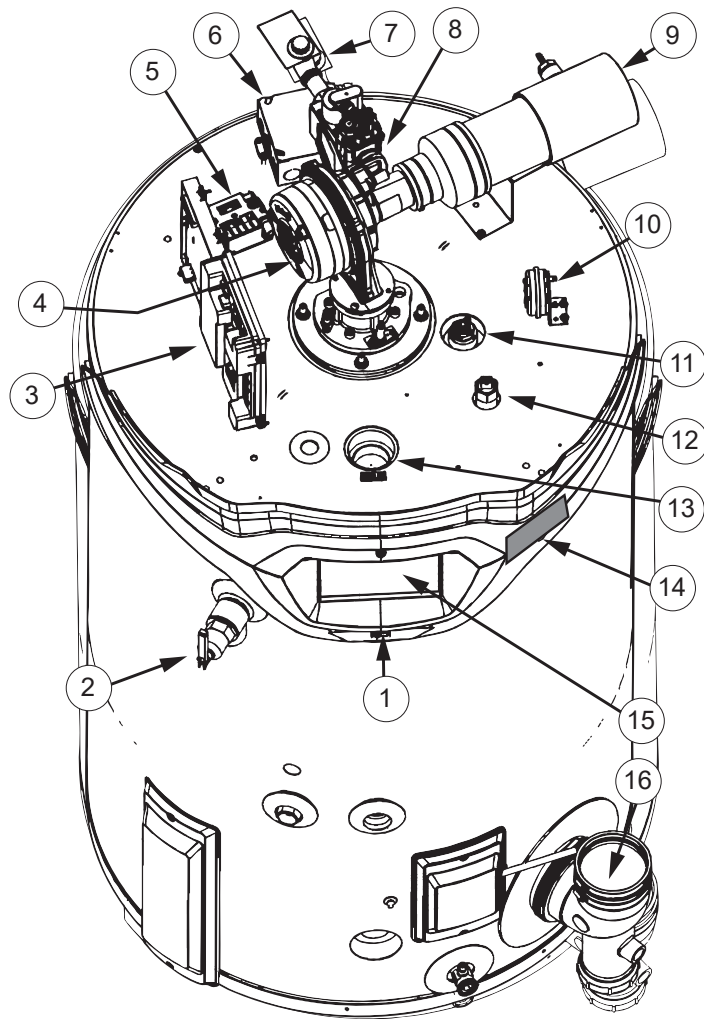
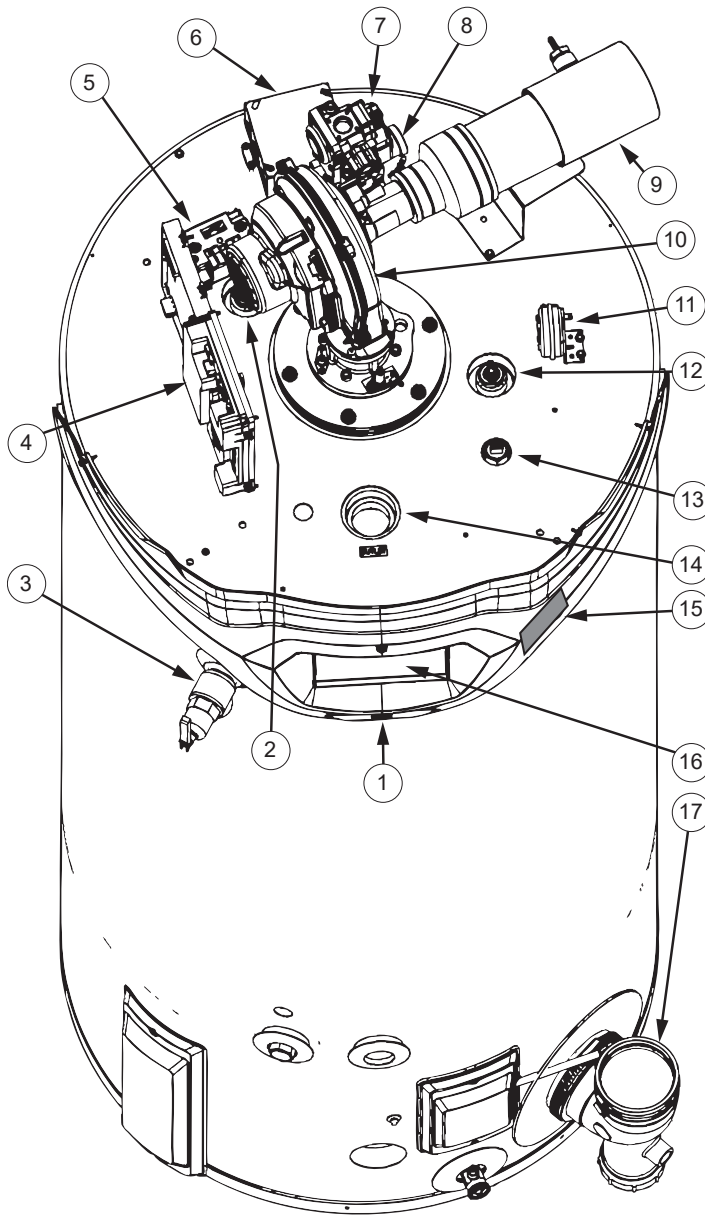
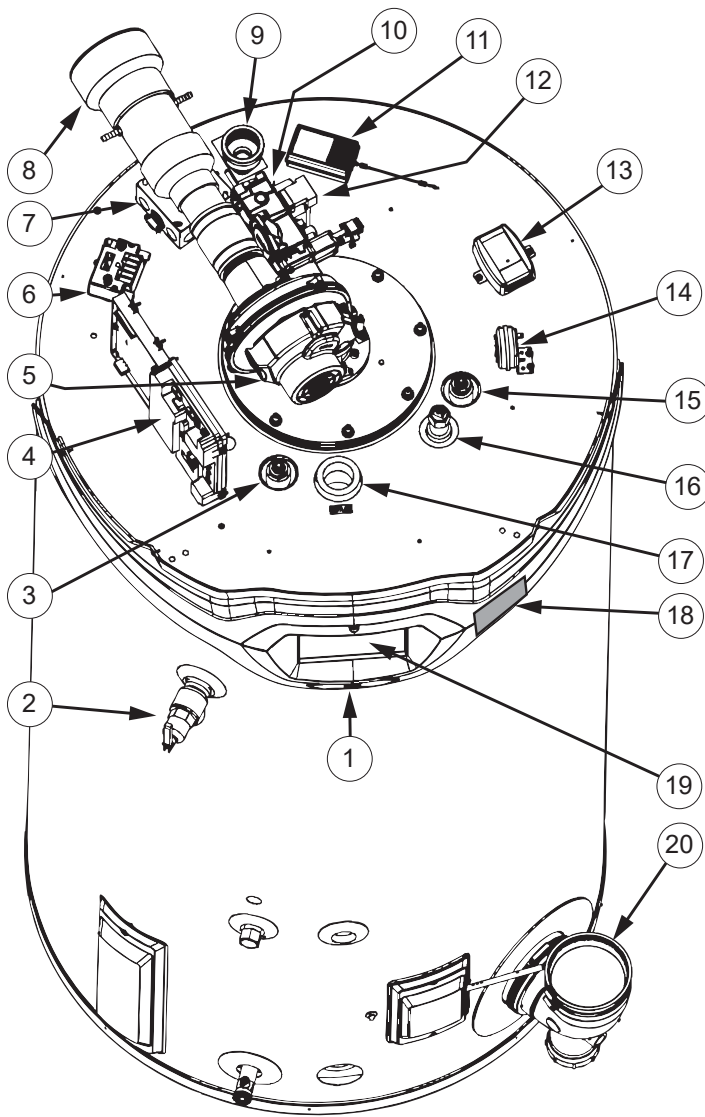

Figure 5. Top View, 60 Gallon
Figure 6. Top View, 100 Gallon
Figure 7. Top View, 119 Gallon
3. Control boards enclosure. See *Figure 5*, *Figure 6*, and *Figure 7* (page 10) for description.
1. Control boards enclosure. See **Figure 5**, **Figure 6**, and **Figure 7** (page 10) for description.